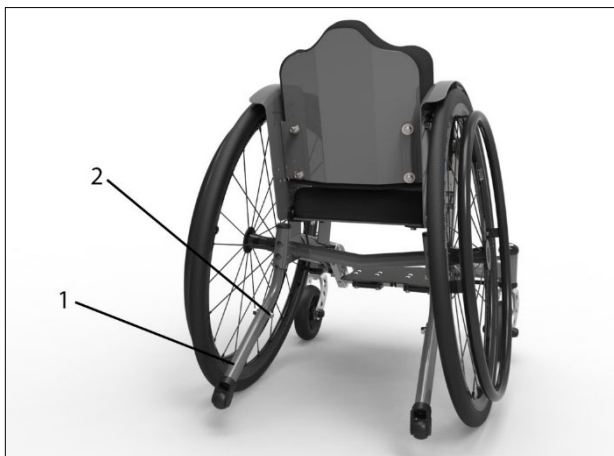

Figure 25: Deactivating/activating the anti-tipper (illustration shows comparable model)
1. Push the anti-tipper (see Figure 25, item 1) down.
1. Move the screw (see Figure 25, item 2) to another hole in the curved piece.